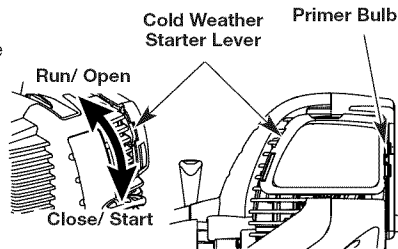

Fig. 11
**IF COLD...** For cold weather conditions (below 40°F), flip the Cold Weather Start Lever (Fig. 11) down to the start/closed position and continue to step 3. DO NOT flip this lever down if the temperature is above 40°F.
3. Fully press and release the primer bulb 10 times, slowly. Some amount of fuel should be visible in the primer bulb (Fig. 11). If fuel can not be seen in the bulb, press and release the bulb until fuel is visible.